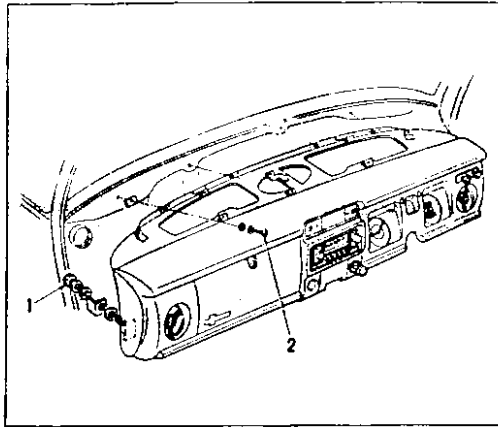

Fig. M.33 Removing the instrument panel.
4. Remove the shell covers from the steering column, slacken the screws securing the meter housing and withdraw the panel from the fascia. (Fig.M.33.).